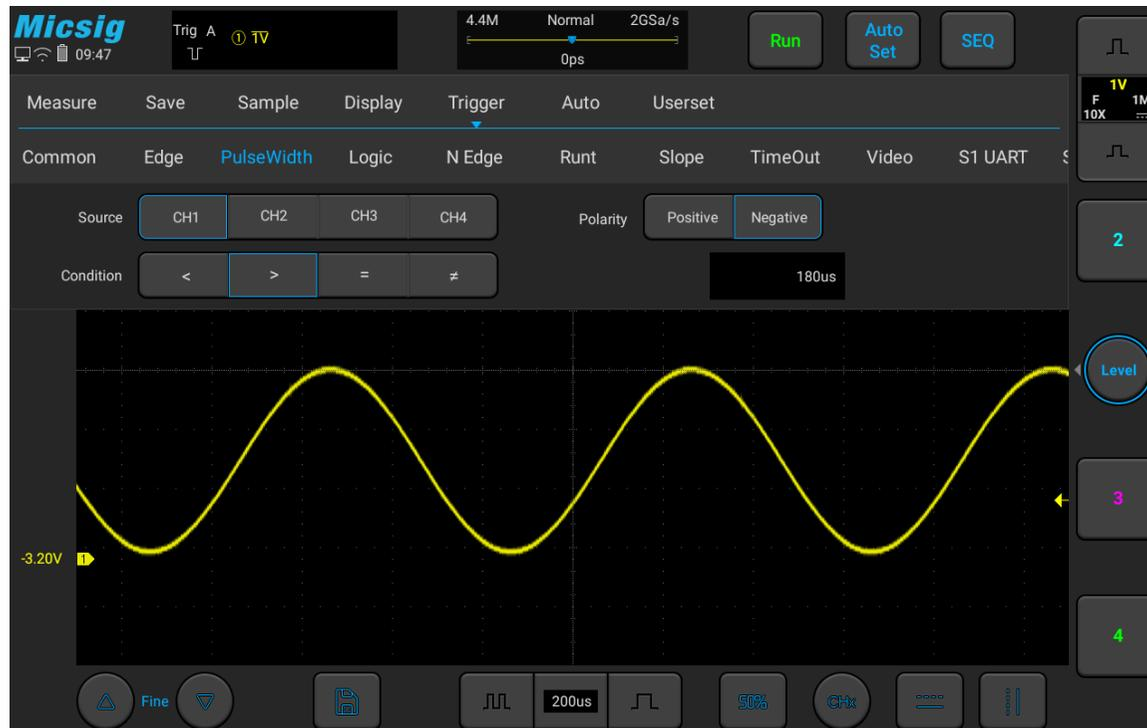

Figure 5-15 Negative Polarity Pulse Level Flip
lower than current trigger level (CH1 negative pulse indication icon  ① 1.00V). When triggered on positive polarity pulse, if the restrictions are true, the trigger will happen on the high-to-low transition of the pulse; when triggered on negative polarity pulse, if the restrictions are true, the trigger will happen on the low-to-high transition. (Figure 5-15 Negative Pulse Level Flip)